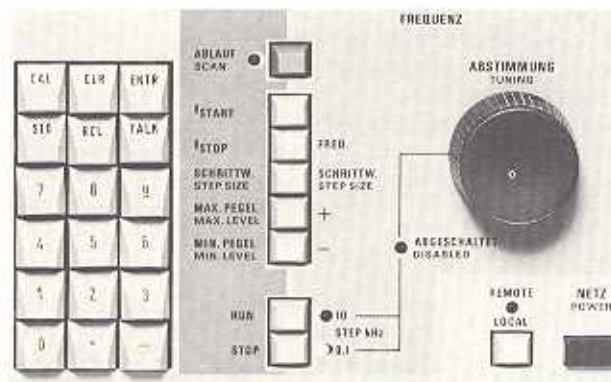

Fig. 16 Front-panel controls for frequency entry and scanning.
**Frequency setting** is possible in several ways, calibrated offset indication being provided as a tuning aid (Fig. 16):